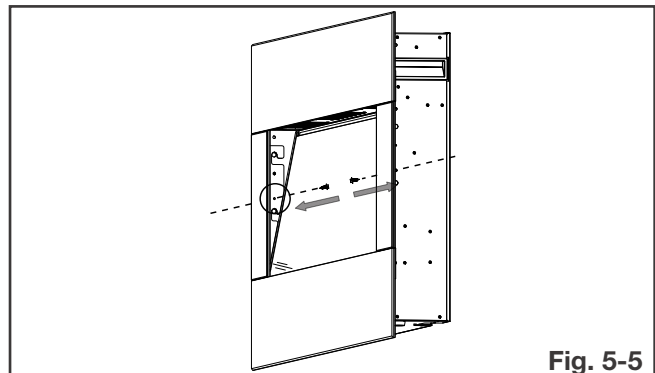

Fig. 5-5
- Secure the front surround in place by installing two screws from the inside to the outside of the appliance (Fig. 5-5).